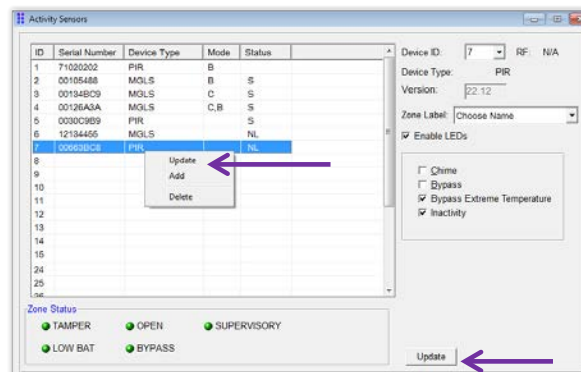

Figure 54: Update Activity Sensor
3. Right click the selected row. The function window appears as in Figure 54 below.